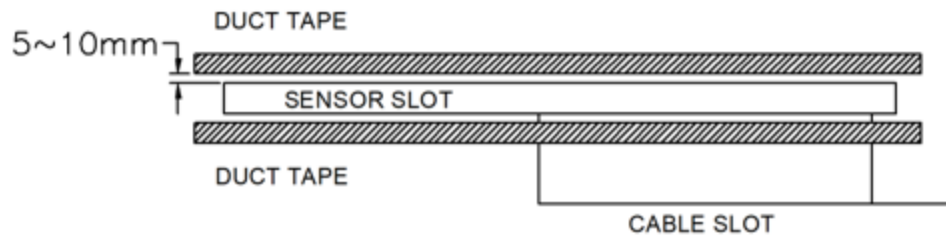

Figure 5. Placement of Tape
9. Place the 50 mm wide tape on either side of the sensor slot, keep it about 5-10 mm away from the edge of the slot, as shown in Figure 5. This is to keep the road surface clean and assist in leveling the epoxy.